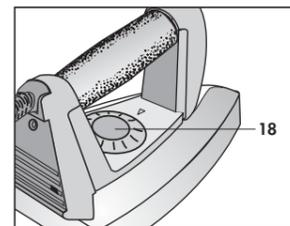

Fig. 19
- Push the steam on/off button (19) on the handle of the iron to activate or deactivate the steam function. Fig. 19 bis.
Fig. 19 bis